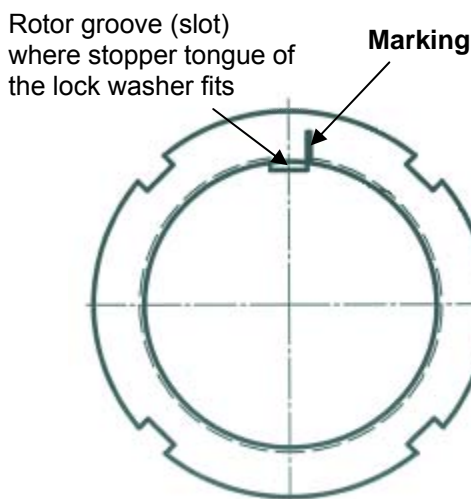

Figure 7-9 Position where mark is put
- Put a mark on the lock nut at the right side edge of the rotor groove where the stopper tongue of the lock washer fits in, as shown in Figure 7-9.